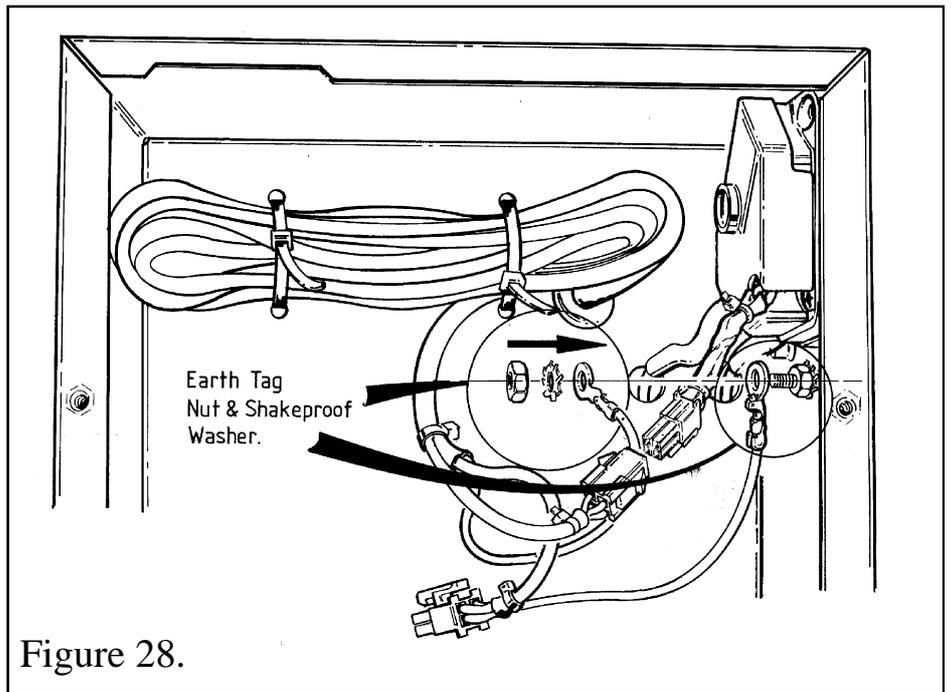

Figure 28.
6. Locate the cable loom earth tags and secure to the fan box earth stud using the M4 nut and shakeproof washer supplied. Connect the cable loom to the pressure switch (See figure 28).